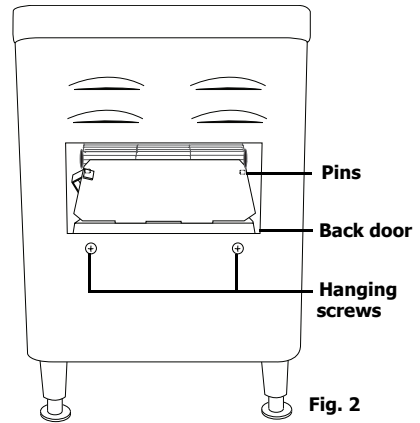

**Fig. 1**
2. Rest the legs on the outside of the appliance **[Fig. 1]**.